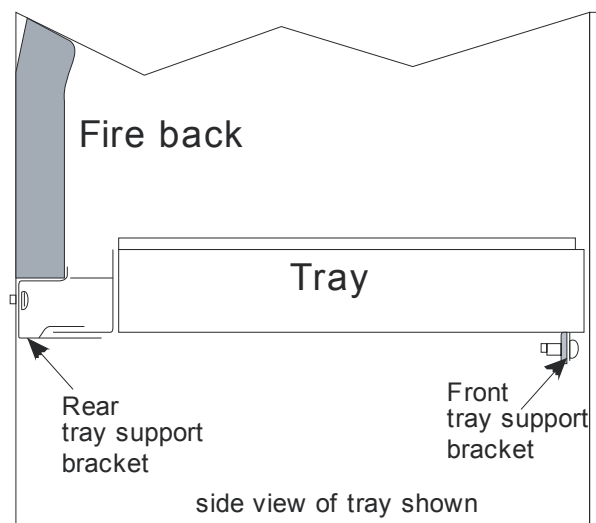

Figure 62
5. Replace the burner tray ensuring that the rear of the burner tray assembly slots into the rear support bracket (see **Figure 62**).